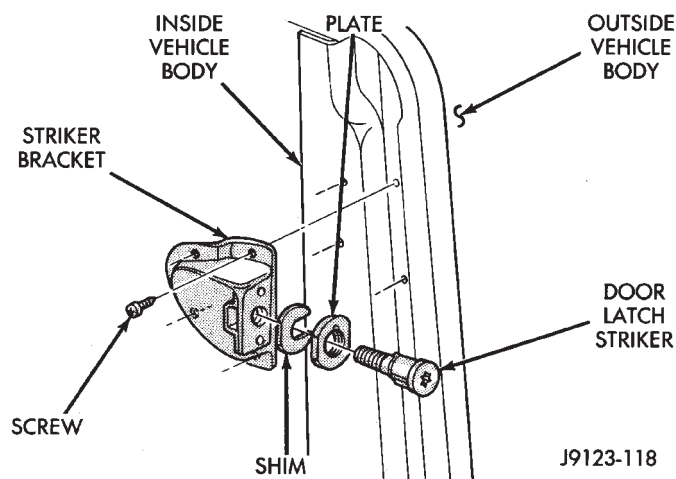

Fig. 7 Half-Metal Door Latch Striker
- (1) Remove the striker with a Torx bit (Fig. 7).
- (2) Install the plate, shim and replacement striker with a Torx bit (Fig. 7).